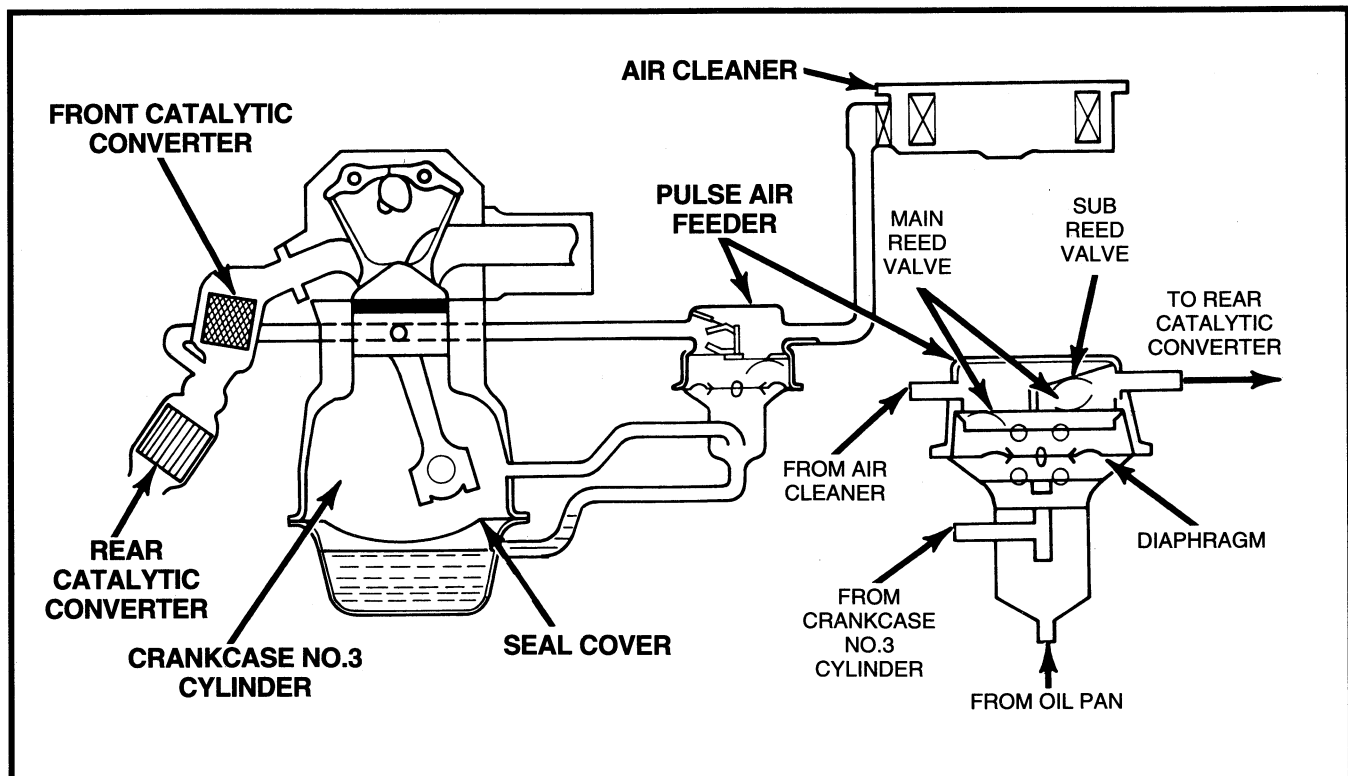

Figure 39 Pulse Air Feeder System 2.6L MMC (California)
- ***Pulse Air Feeder systems*** (fig. 39) use engine crankcase pressures acting on a diaphragm to draw air from the air cleaner.